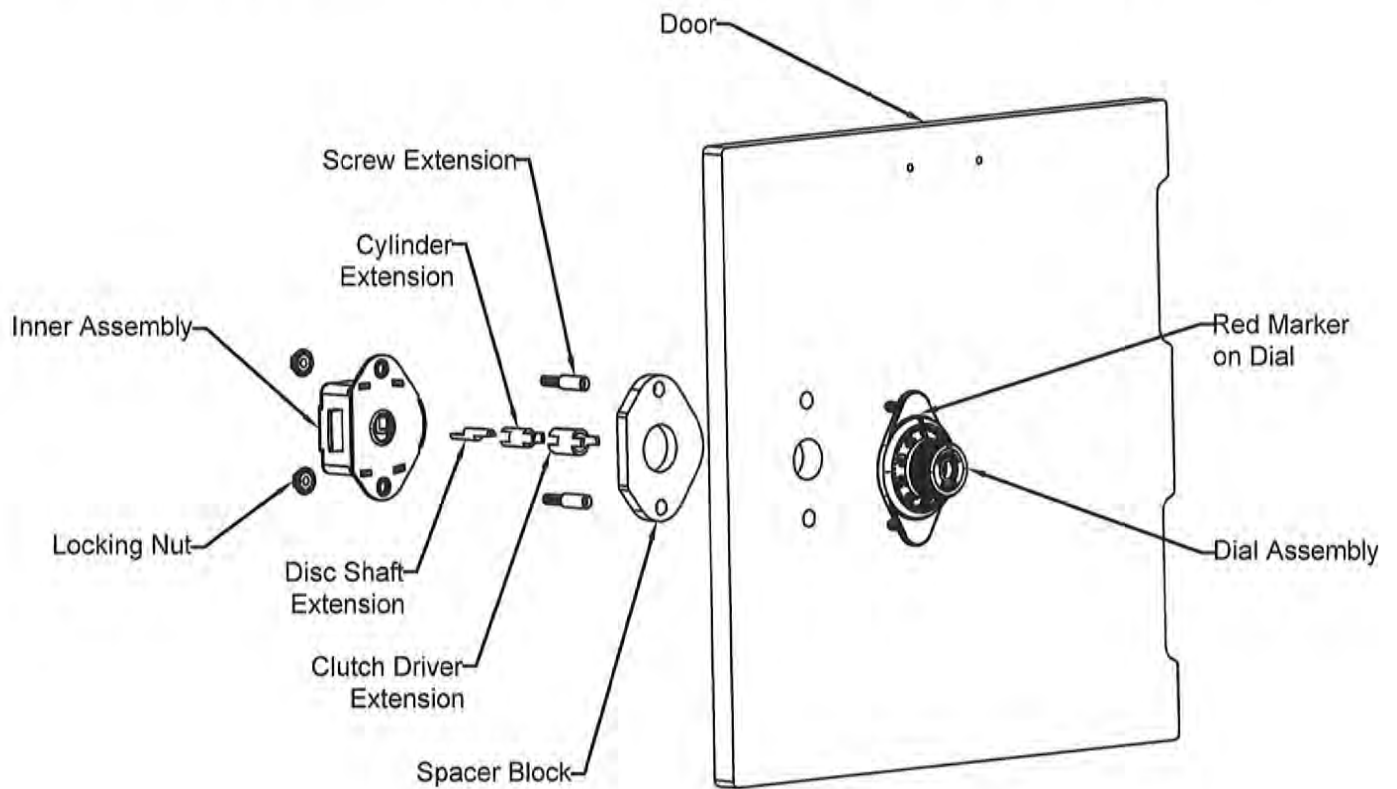

Figure 12.1 Built-In Combination Lock Installation
- 12.2 Set dial at "0" at red marker, then proceed to separate Dial Assembly from Inner Assembly, see Figure 12.1.
- 12.8 Insert Dial Assembly (with red dial marker up and dial at "0") through holes on locker door into Inner Assembly. See figure 12.1. If units do not fit together flush, turn knob until unit drops into position.